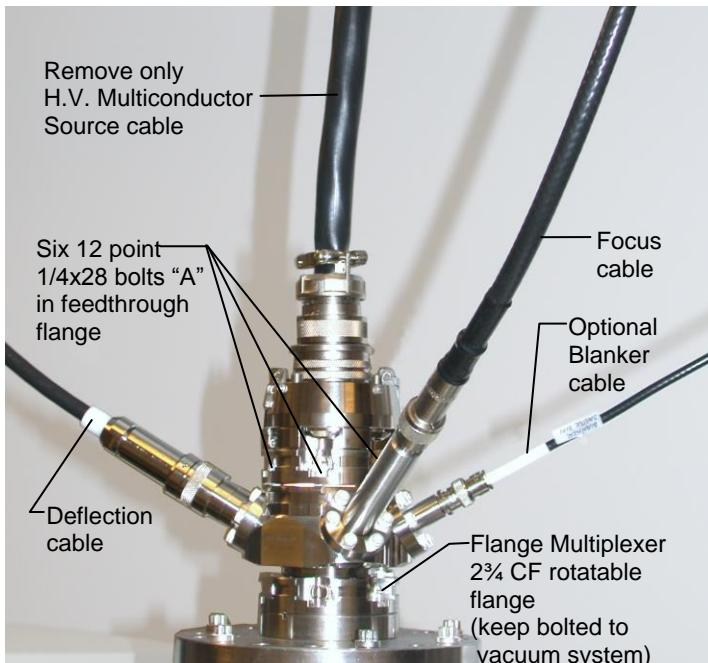

Fig. 6.3-1 EGG-3101 Electron Gun before disassembly
5. To remove the Firing Unit Feedthrough Assembly: (Figs. 6.3-1 and 6.3-2).
- a. Using a 12 point socket wrench, remove the six 1/4x28 bolts ("A" in Fig. 6.3-1) in the 2 1/4 CF feedthrough flange.
4. Replace and tighten the six 1/4x28 bolts ("A" in Fig. 6.3-1) in the 2 $\frac{3}{4}$ CF feedthrough flange.